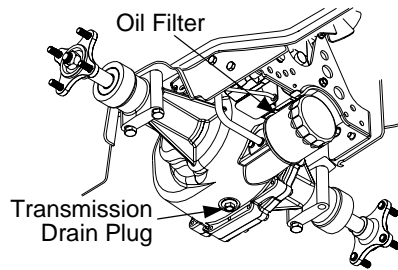

Figure 22
- Clean the area around the transmission drain plug to prevent debris from entering the transmission case. Remove the drain plug and allow the transmission oil to drain into a clean container having a capacity of more than 5 quarts. Reinstall the drain plug. See Figure 22.